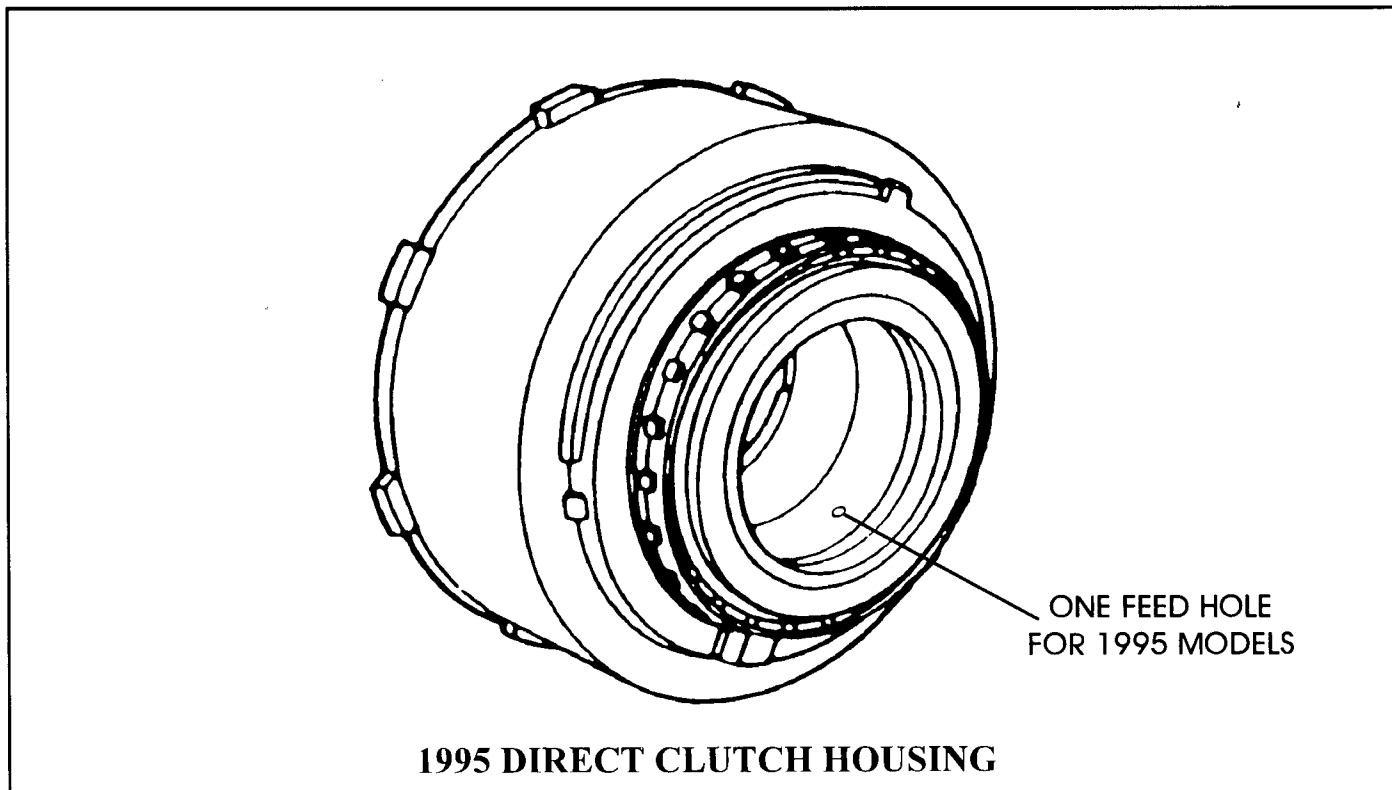

Figure 51
CHANGE: Beginning at the start of production for the 1995 model year, all E4OD transmissions were built with a revised Direct Clutch Housing (Intermediate Brake Drum) as shown in Figure 51.
(1) DIRECT CLUTCH HOUSING - 1995 models now have only *one* direct clutch apply pressure feed hole, instead of the *two* feed holes found in previous models (See Figure 51).